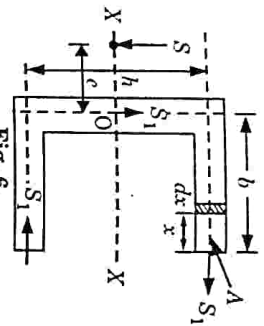

Fig. 6.
1. From Fig. 6,  $b = 125 - \frac{20}{2} = 115$  mm